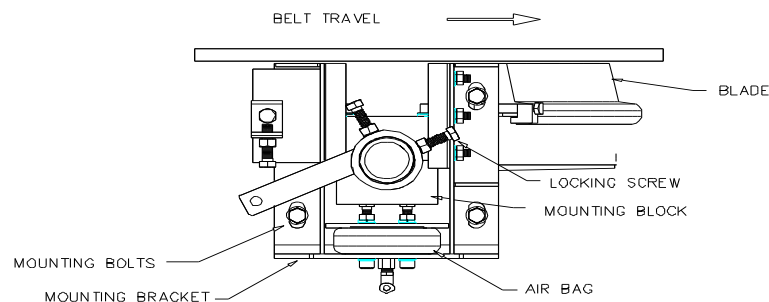

Figure 1 - General Arrangement of Mato MCS1 Type Cleaner
- The mounting brackets should be perpendicular to the belt as shown in Figure 1